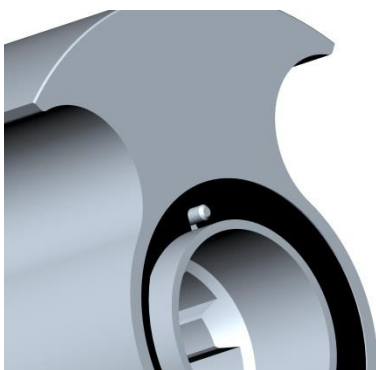

Figure 21 – Align the L cup to the rotor drive pin
- To fit the seal seat to the rotor (56), first insert L cup rubber (83) into the rotor (DO NOT lubricate), ensure alignment with the drive pin. (Figure 21).